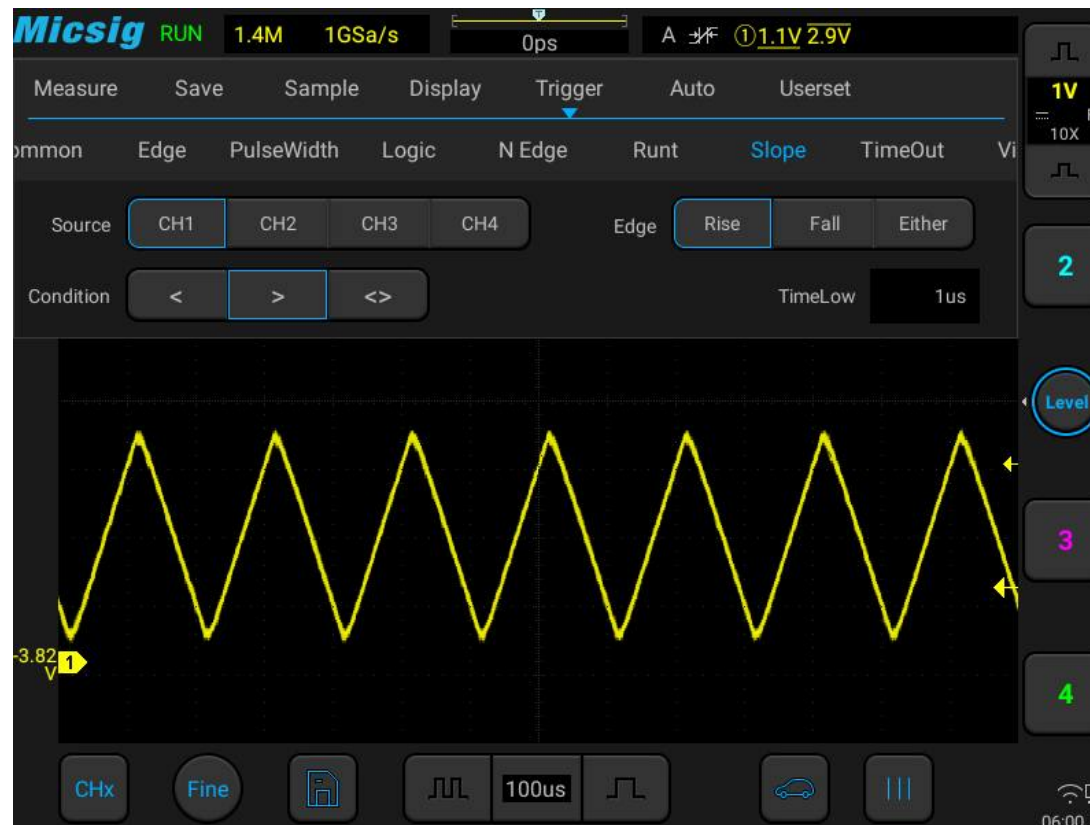

Figure 7-27 Slope Trigger Setting Menu
- 1) Tap “Trigger” on the main menu to open the trigger menu, select the slope trigger in the trigger type, and set the slope trigger as follows, as shown in Figure 7-27: